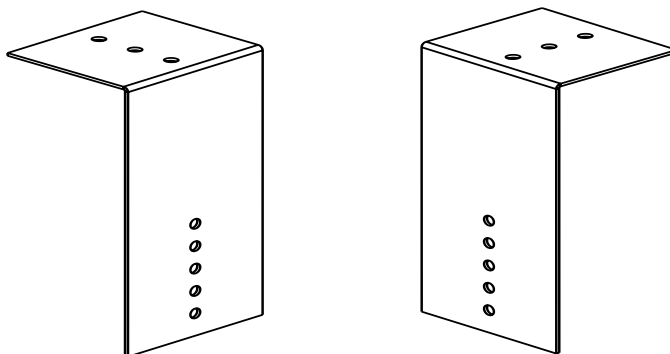

Figure 8. Concentric Adapter Box Brackets
4. Secure longer angles on concentric adapter box brackets (see Figure 8) to concentric adapter box.
- b. Position concentric adapter box to match pipe runs and secure short angles of concentric adapter brackets (see Figure 8) to underside of roof using field-supplied hardware.